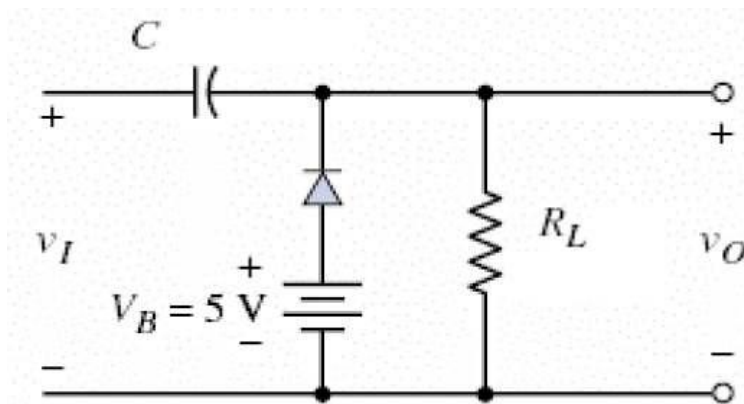

Figure 2: Clamper circuit
(1) Construct circuit shown in Figure 2.
(2) Apply a sinusoidal wave with amplitude of 4 V and frequency 10 kHz as the input voltage  $V_I$ . Show the input  $V_I$  and output  $V_o$  waveforms on oscilloscope and capture both waveforms using MATLAB. In your report, plot input and output experimental results on the same plot. Overlay the theoretical calculation of input and output on the same plot.
(3) Repeat (2) with a square wave with a peak of +2 V and valley of -4 V. (Think about how you will generate this wave using function generator.) No calculation needed for square wave.
(4) Repeat step (2) and (3) after changing  $V_B$  to 1 V.